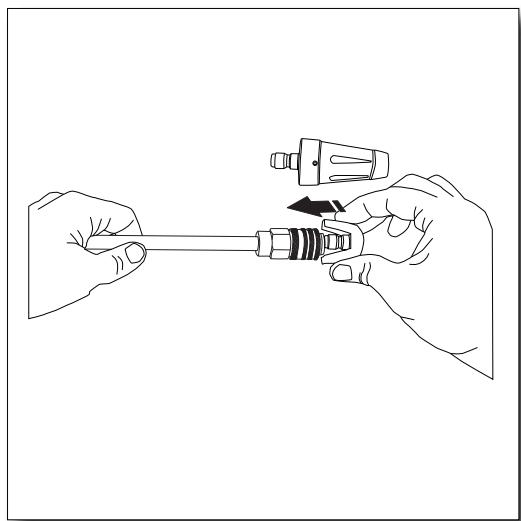
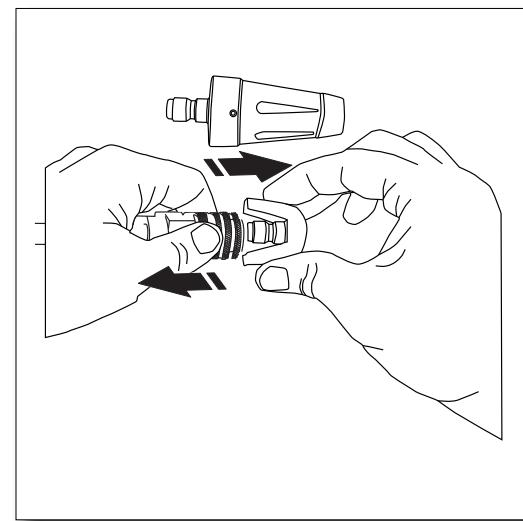

Fig. 10
Fig. 11
- Attach nozzles into the end of the lance by pressing selected nozzle into place, it will make a click sound when firmly in place (**Fig. 10**). To remove nozzle, pull back on the collar on the lance and pull out the nozzle (**Fig. 11**).